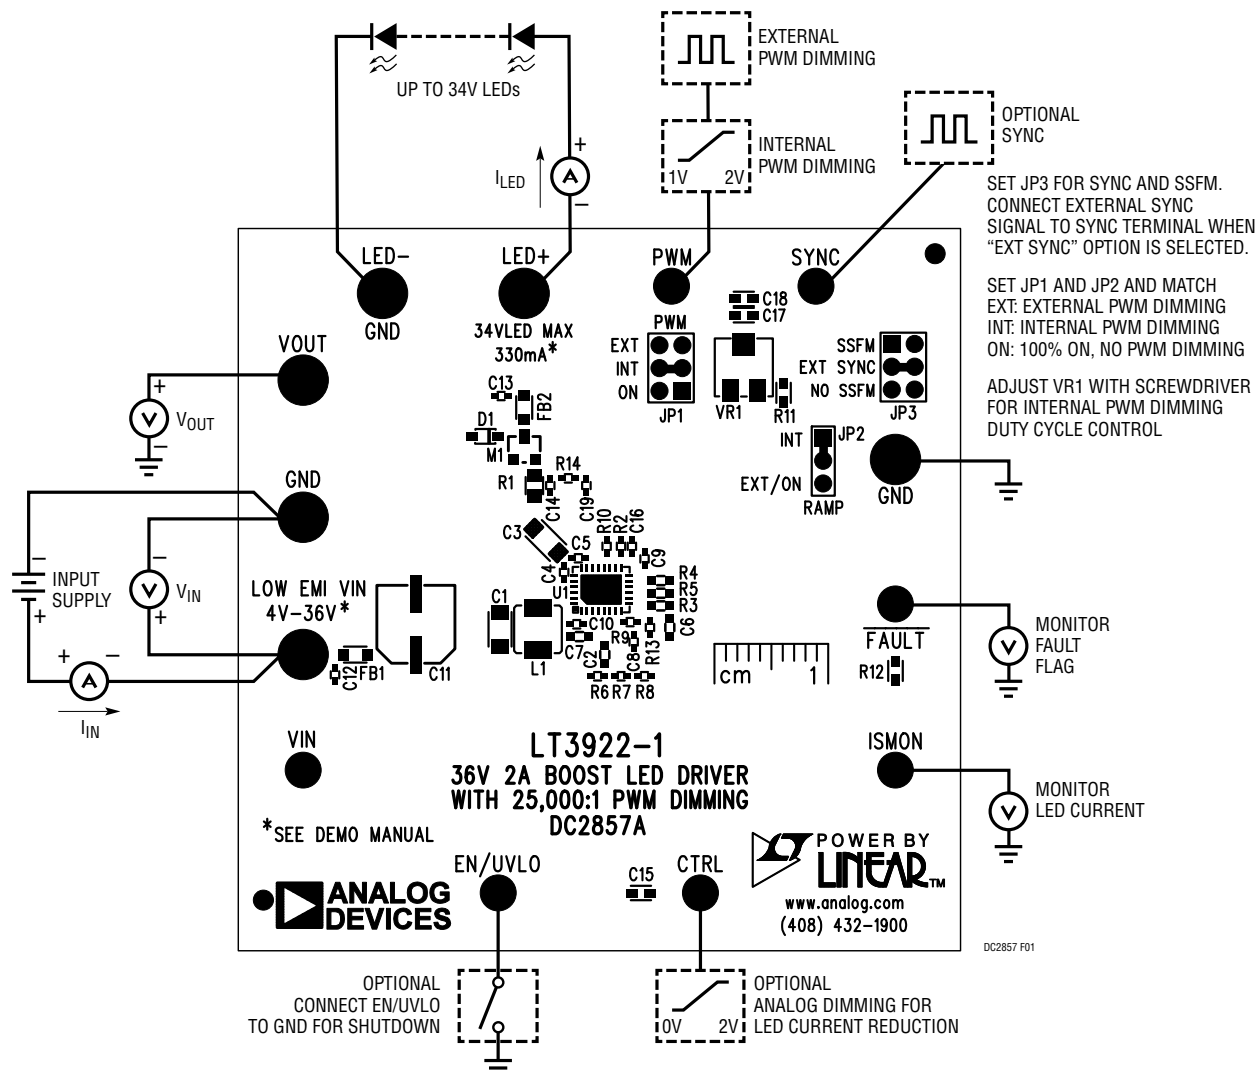

Figure 1. Test Procedure Setup Drawing for DC2857A
- With power off, connect a string of LEDs that will run with forward voltage less than or equal to 34V (at 330mA) to the LED⁺ and LED⁻ terminals on the PCB as shown in Figure 1.